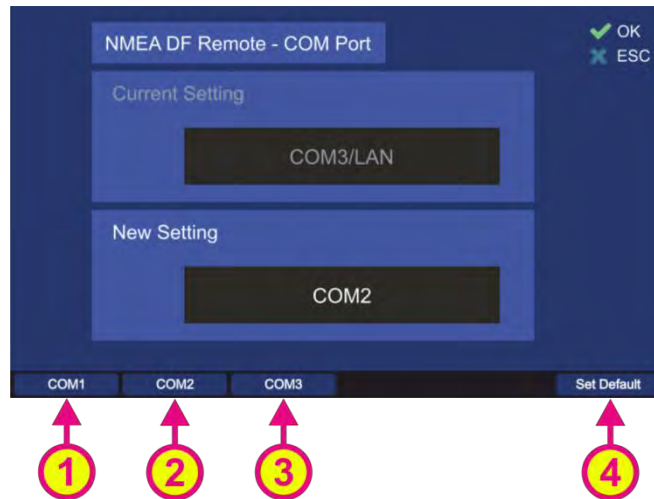

Figure 110. Remote communication port configuration
- Pressing the hotkey "Edit Value" while "Baudrate" is marked, opens the following sub-dialog (s. Figure 110).
- Selecting “COMx” (s. Figure 110, positions 1, 2 and 3) configures the corresponding NMEA interface as the remote communication port. Choose the new setting using one of the hotkeys, which will then appear in the “New Setting” field.